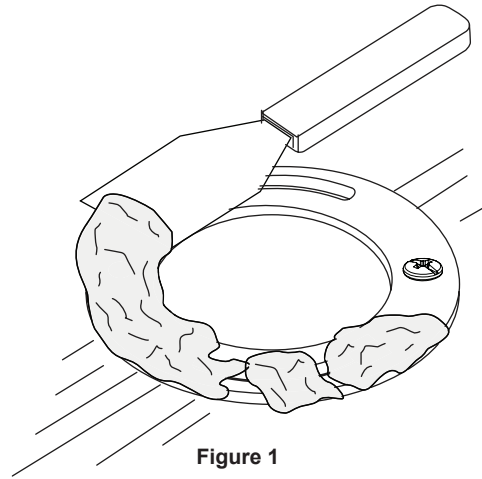

Figure 1
- 5 Scrape the old wax gasket from the floor flange (Figure 1).